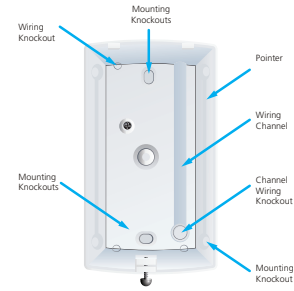

Figure 4: Mounting knockouts and channels
- 1) Open the PYR-4122 casing by unscrewing the security screw located on the bottom of the detector (Figure 4)
- 3) Remove the knockouts from the back case by using a sharp tool or using a nail. (see Figure 4)